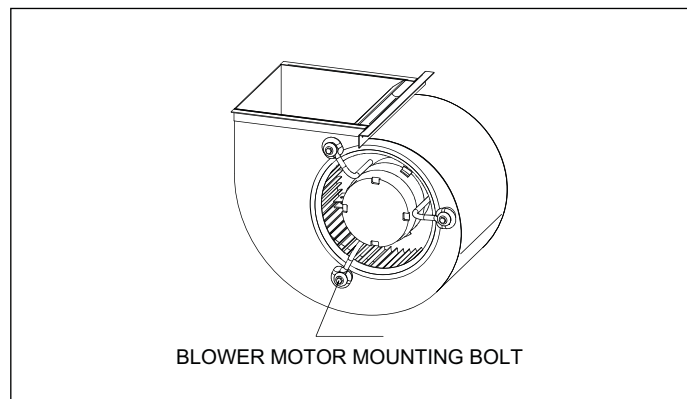

Figure 1
- ▶ Make sure the blower motor support is tight (3-motor mounting bolts - Fig. 1). Then check to see if wheel is tightly secured to motor shaft before operation unit.